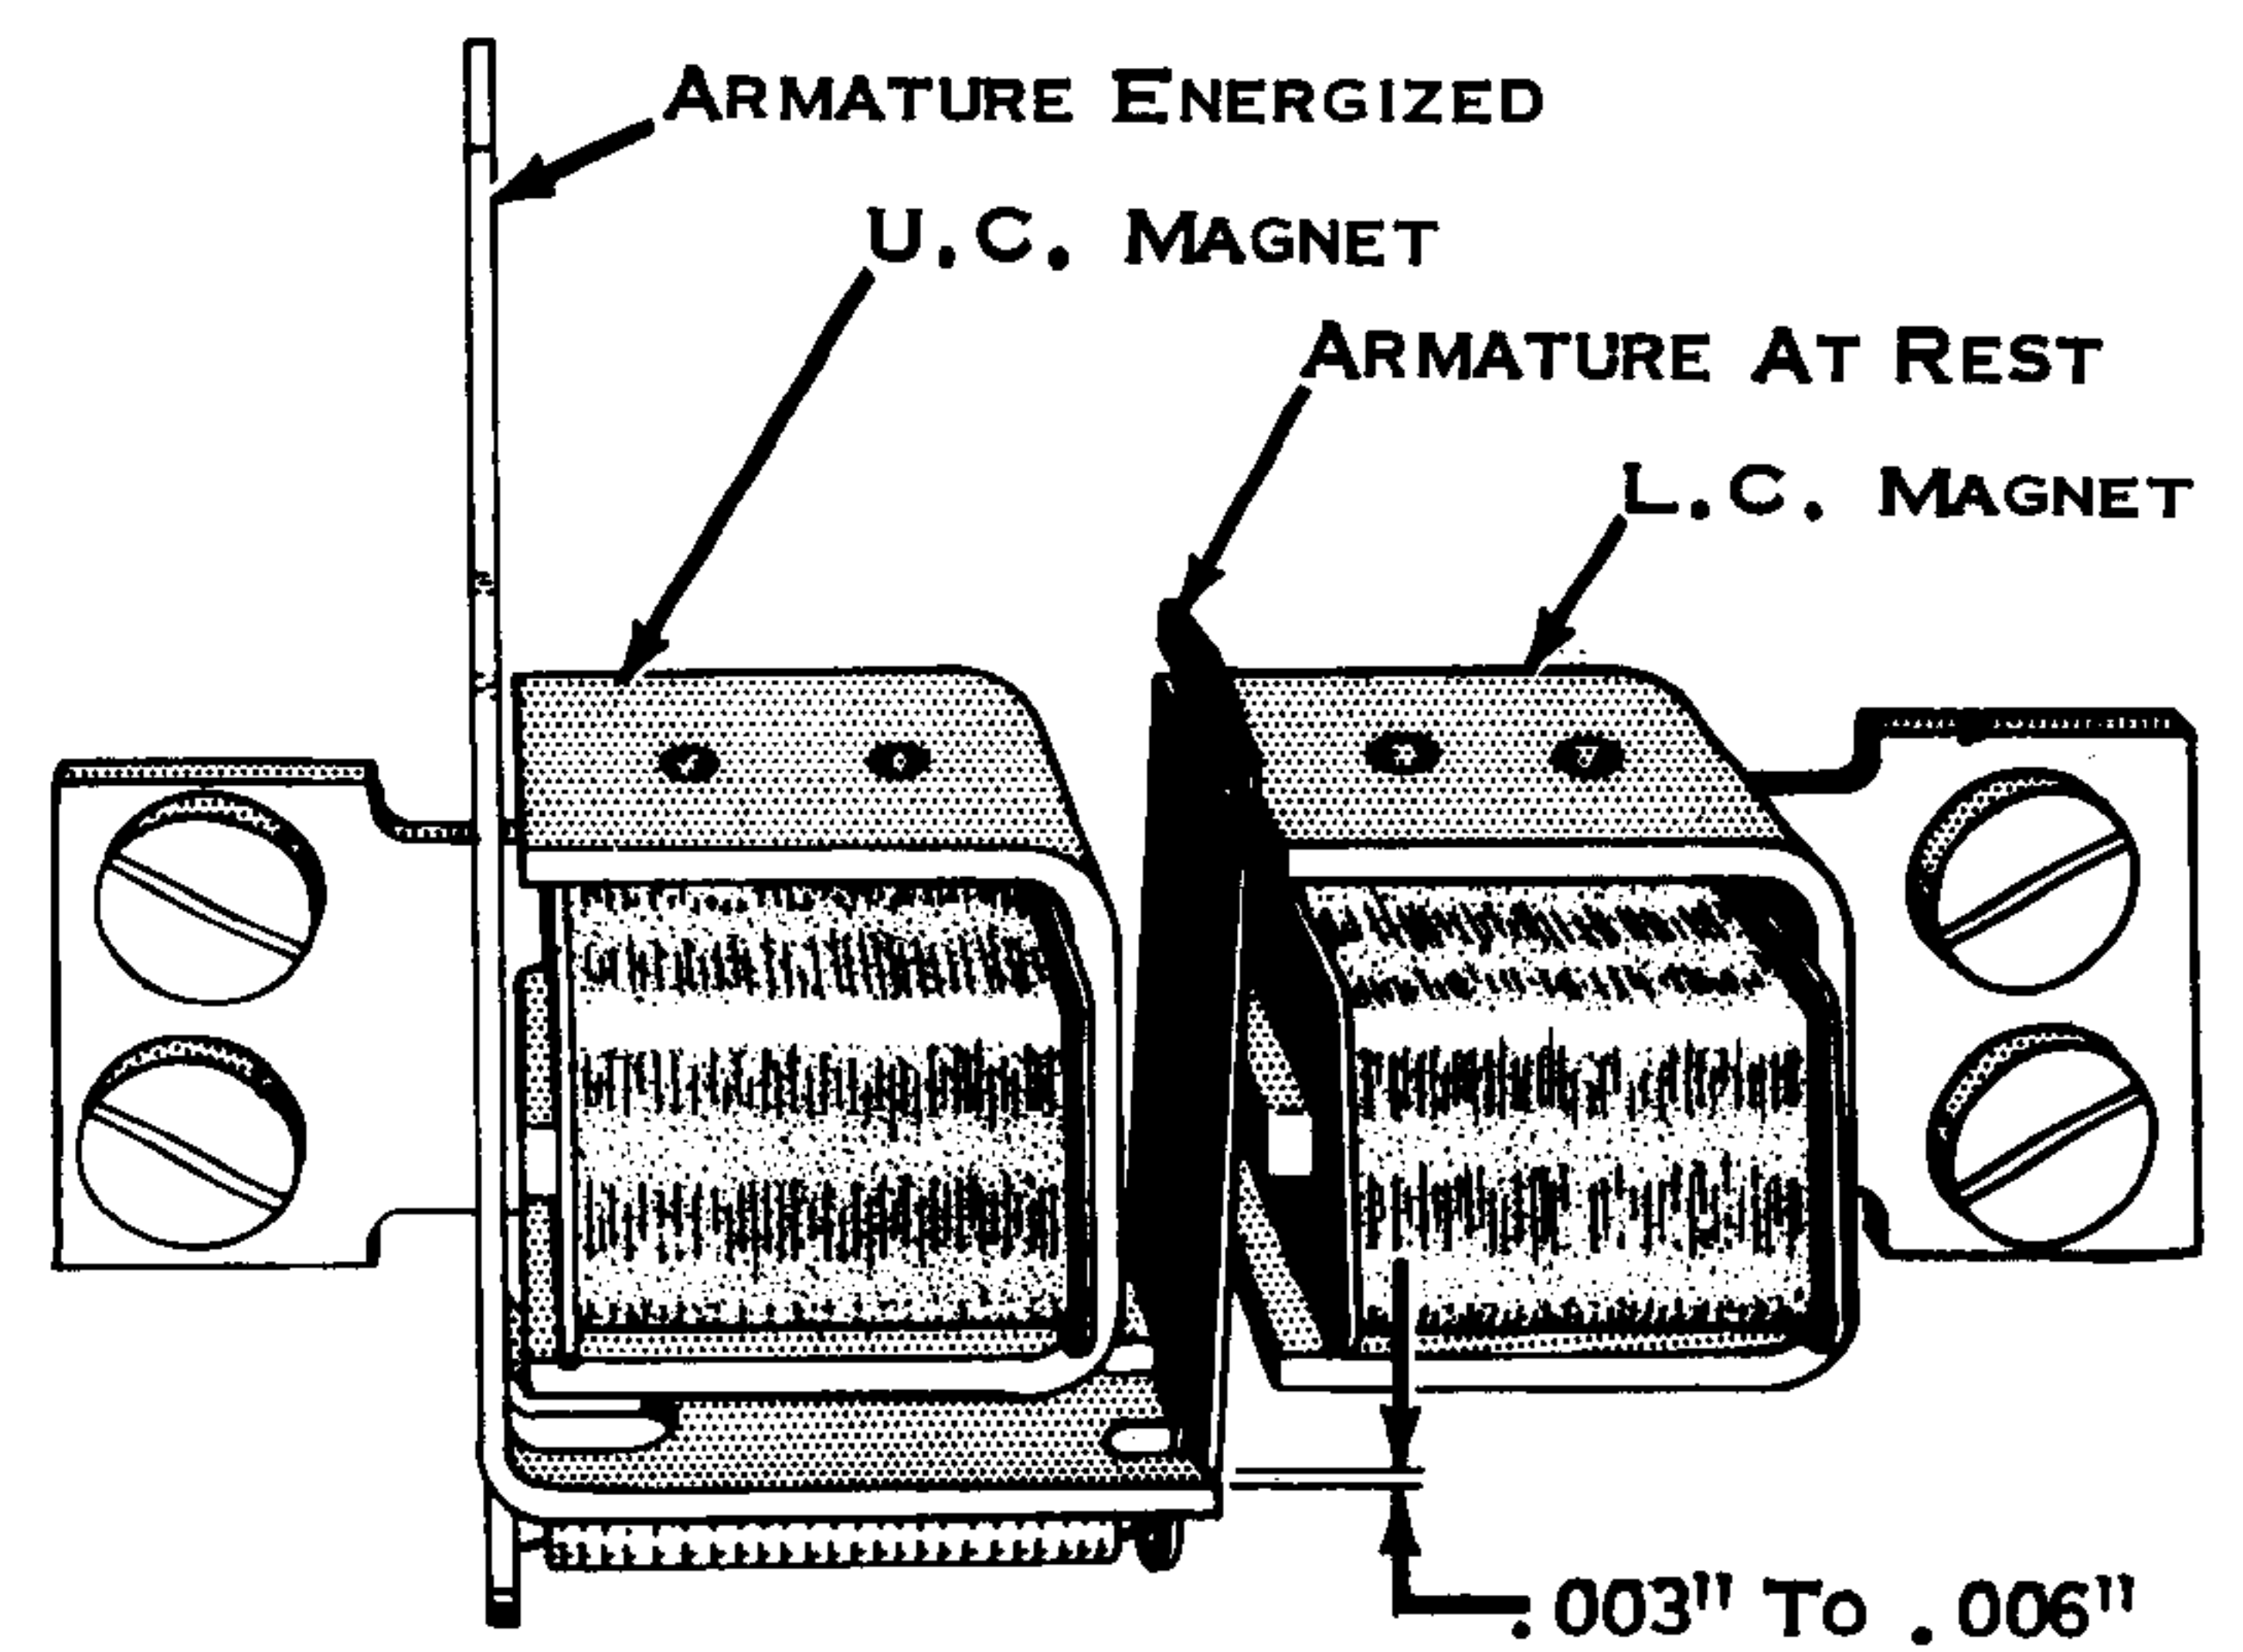

Figure 97. LC Magnet Assembly (Up or Down)
- b. Up or Down - UC armature (energized) clears the LC armature (at rest) by .003" to .006" (Fig. 97).